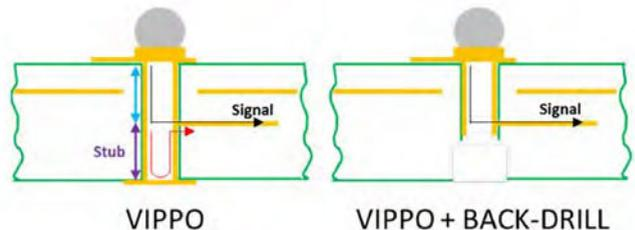

Figure 2: VIPPO vs. VIPPO + back-drill structure.
Figure 2 exhibits the VIPPO structure as compared with the VIPPO + backdrill (BD) structure. The use of backdrill with the VIPPO structure